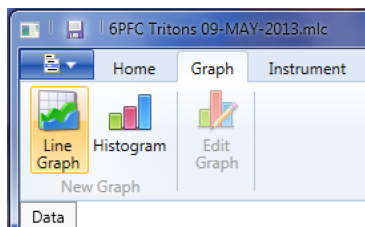

Figure 53
- 2) Once the Data Window is active, open the Graph menu and select the "**Line Graph**" button (Figure 53).